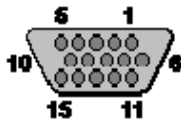

Figure 4-24: VGA Connector
- CN Pinouts:** See **Figure 4-24** and **Table 4-18**